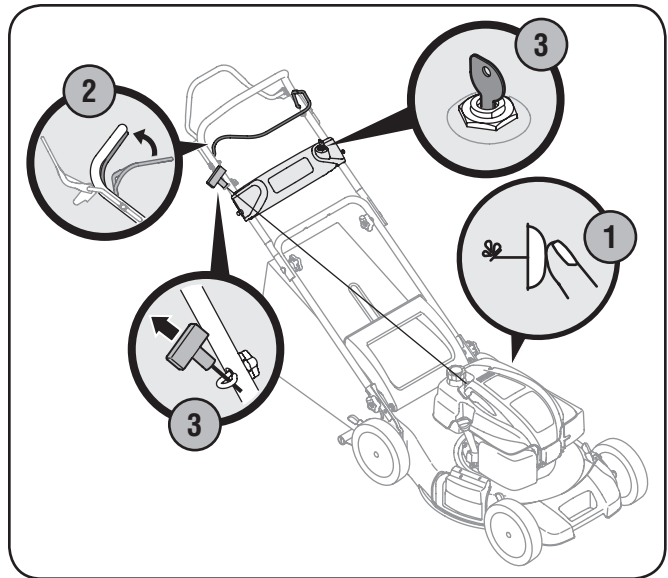

Figure 5-4
1. Push primer 3 times. Wait about two seconds between each push. See Figure 5-4. In temperature below 50°F, prime 5 times. After the engine is warmed up, one prime may be needed for all temperatures.
3. **Recoil Start:** Pull the recoil starter lightly until resistance is felt, then pull rapidly to overcome compression, prevent kickback, and start the engine. Repeat if necessary. See Figure 5-4.